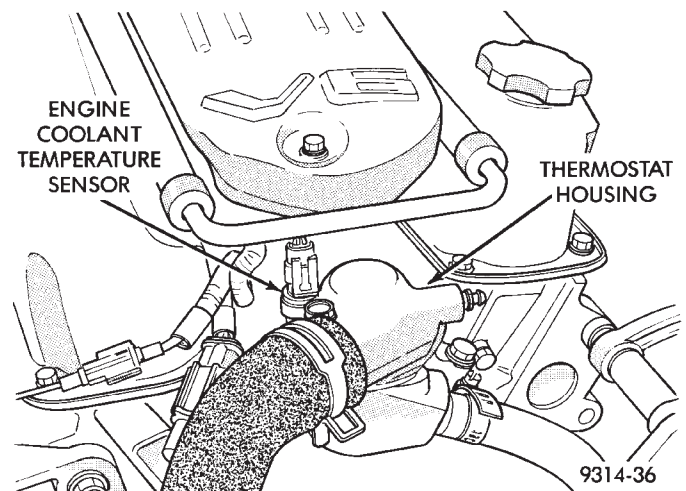
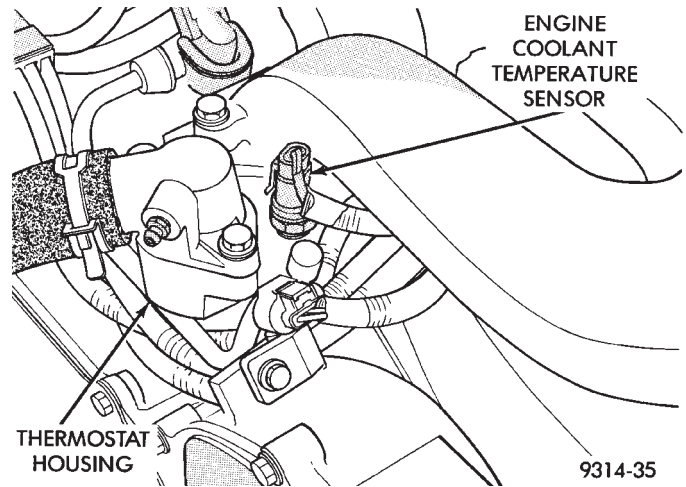

Fig. 8 Engine Coolant Temperature Sensor—3.3L Engine
Fig. 9 Engine Coolant Temperature Sensor—3.5L Engine
(7) Verify the electrical connector is attached to the engine coolant temperature sensor (Fig. 8 or Fig. 9).